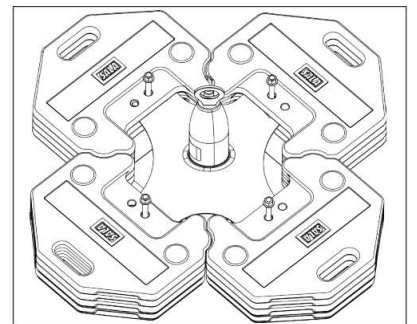

Figure 7
- Assemble one more layer of counterweights over the LEAP Anchor base, then apply a washer and nut to each of the Lbolts. Hand tighten all four nuts snugly. See Figure 7.